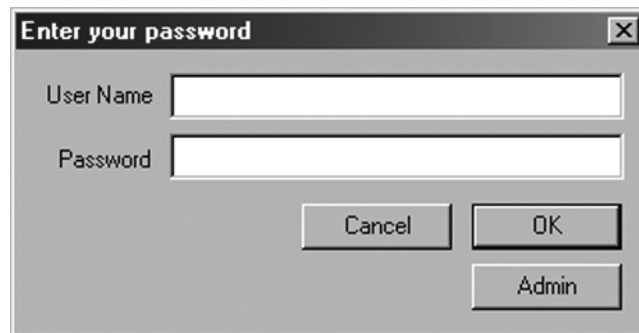
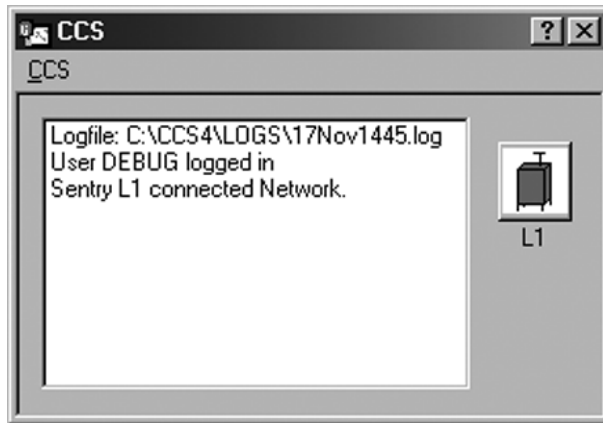

FIGURE 3. Password Panel
FIGURE 4. CCS Main Panel
SMS presents a password panel as shown in Figure 3. Enter the user ID and password (provided to the Customer separately). Users may be added or deleted as described in the Password Management section of this manual.
2. SMS presents a Main Command and Control System (CCS) Panel as shown in Figure 3. and automatically detects all Sentry 3000 detectors (up to 6) connected to it. Each Sentry is represented by an icon as shown in Figure 4 (shown as “L1” here).